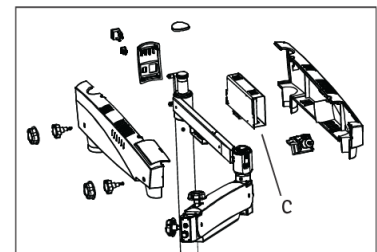

Fig. 42
Switch off the microscope. Open the swivel arm covers and replace the illumination assembly (C) with new assembly. Secure back the arm covers. Refer Fig. 42.